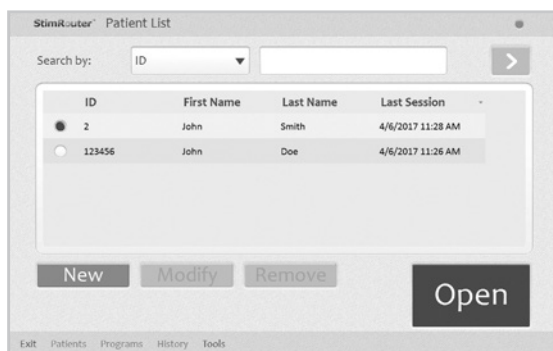

Figure 9-4: Opening a patient record
1. From the Patient List, select a patient and press the "Open" button. See Figure 9-4.